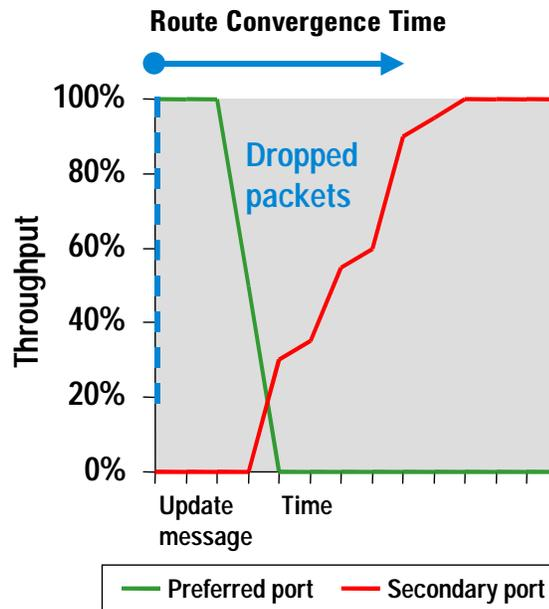

Figure 3: Measuring route convergence speed
- 2 Measure route convergence time—i.e., the time between the initial update message and full throughput on the secondary port (see Figure 3 below). Note that some testers only estimate route convergence time from packet loss.